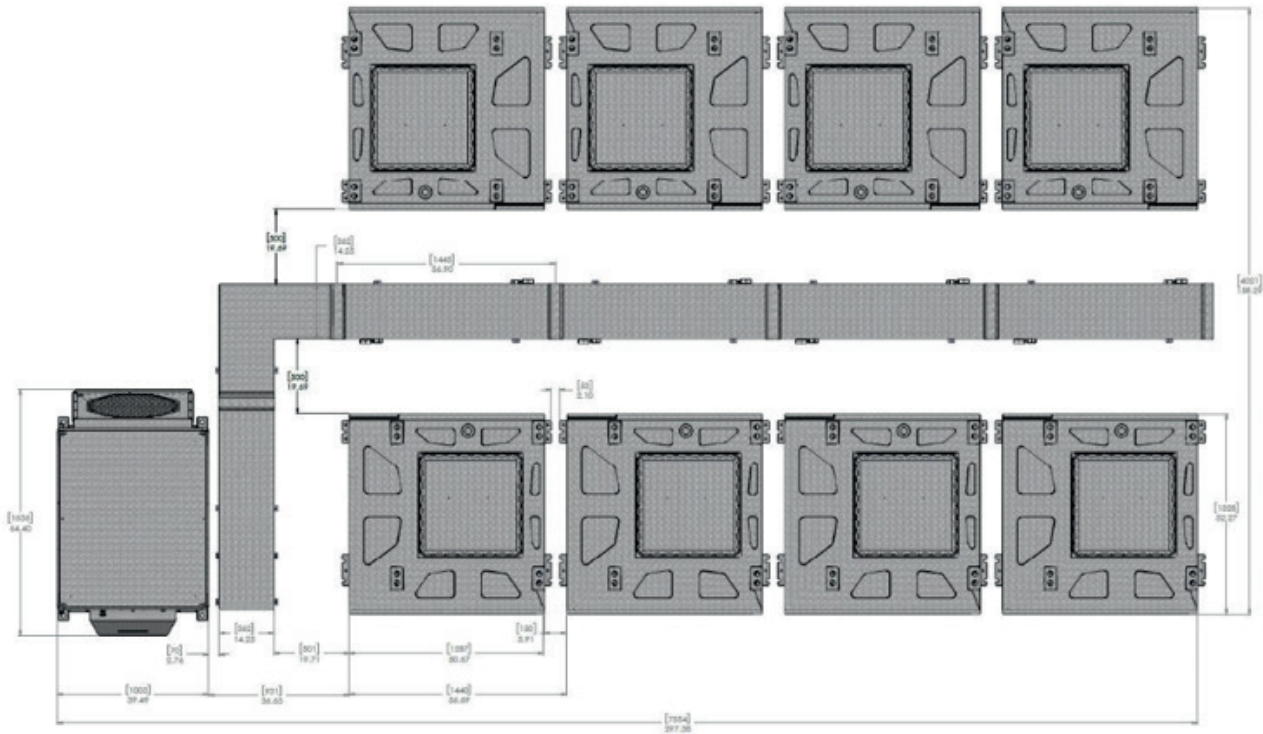

Figure 72. BESS Assembly top view
- **Step 13:** The completed C-Trough should appear as shown in Figure 72.